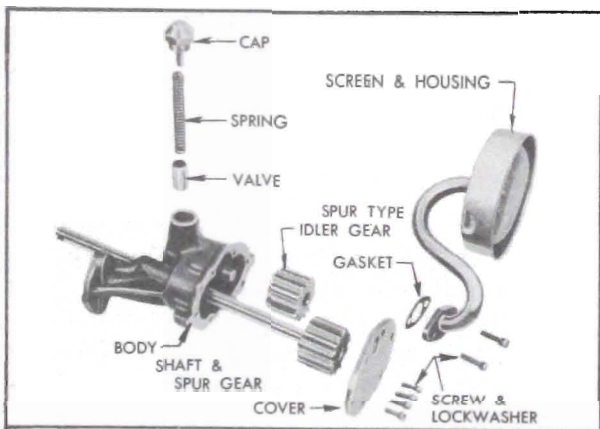

Figure 2-39—Oil Pump and Screen
1. Remove screen housing and gasket, then remove the cover, shaft and gear, and idler gear from the pump body. See figure 2-39.